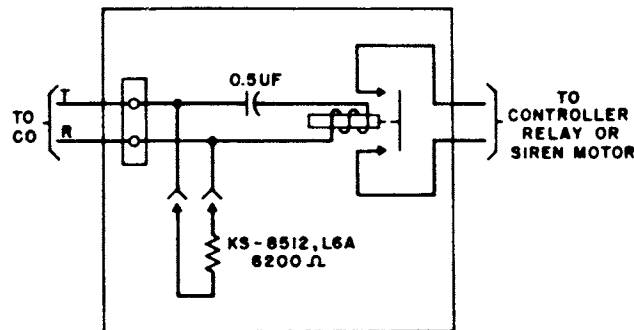

Fig. 3 - Modification of KS-16626, List 13 Power Relay Set
4.01 The KS-16626, List 13 power relay set connects to a line as shown in Fig. 3. This set contains a 526A capacitor, specially selected to withstand continuous applied voltage (Test Spec. 600V DC Cont.). This is an aluminum foil, mylar dielectric capacitor.
4.02 At those stations where the line is to be placed under continuous test, KS-8512, List 6A resistor equipped with No. 241 terminals should be connected across line as shown in Fig. 3. Insulate exposed leads of the resistor with tape or tubular insulation.